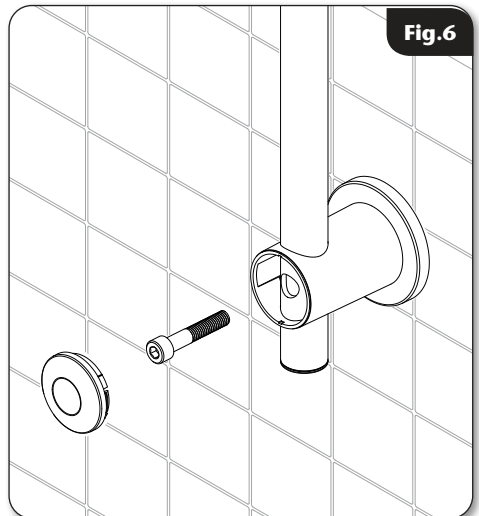

Fig.6
**Note: The screw should pass through the larger hole in the base of the riser rail (fig.6) and come to rest against the inner of the riser rail to stop it from turning within the bracket.**